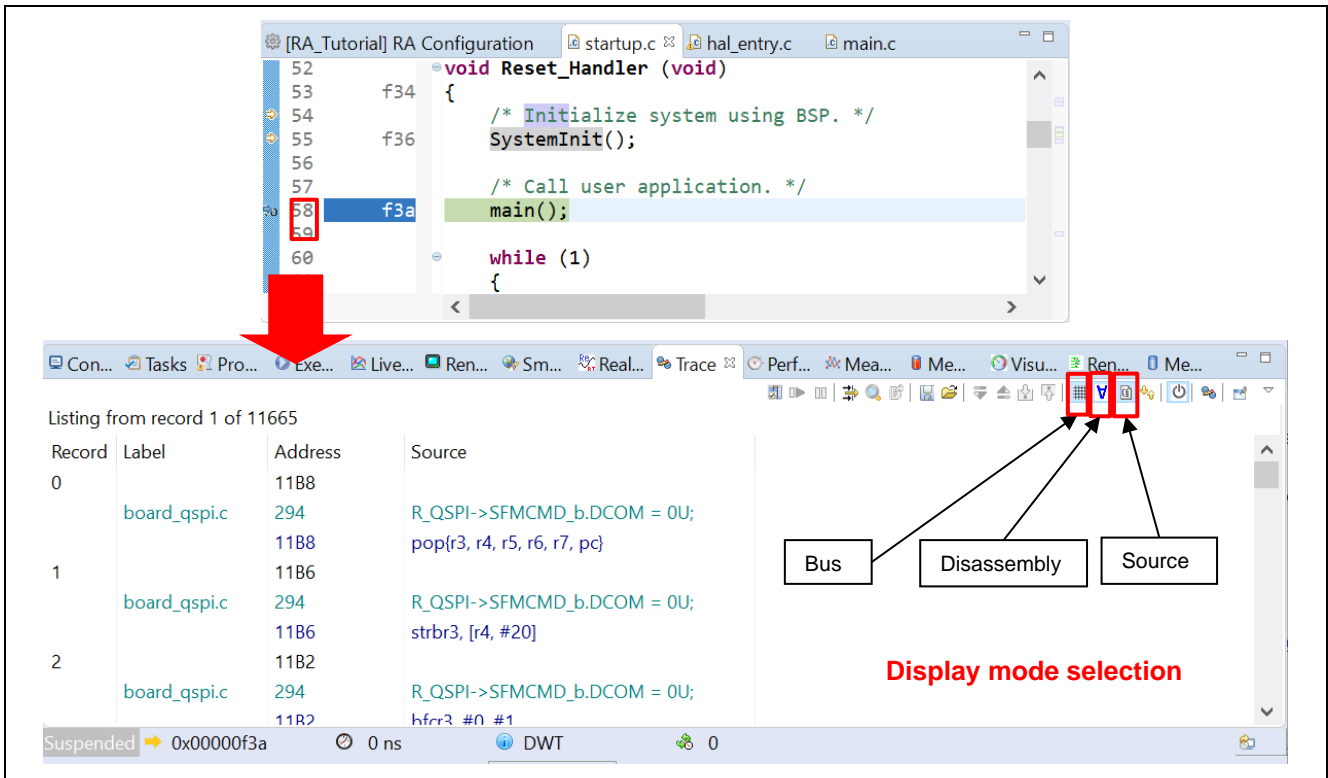

Figure 5-24. Debug – Select Display Mode in Trace View
4. Select the display mode by clicking on the corresponding button. Figure 5-24 shows the trace result before the `main()` function is executed.